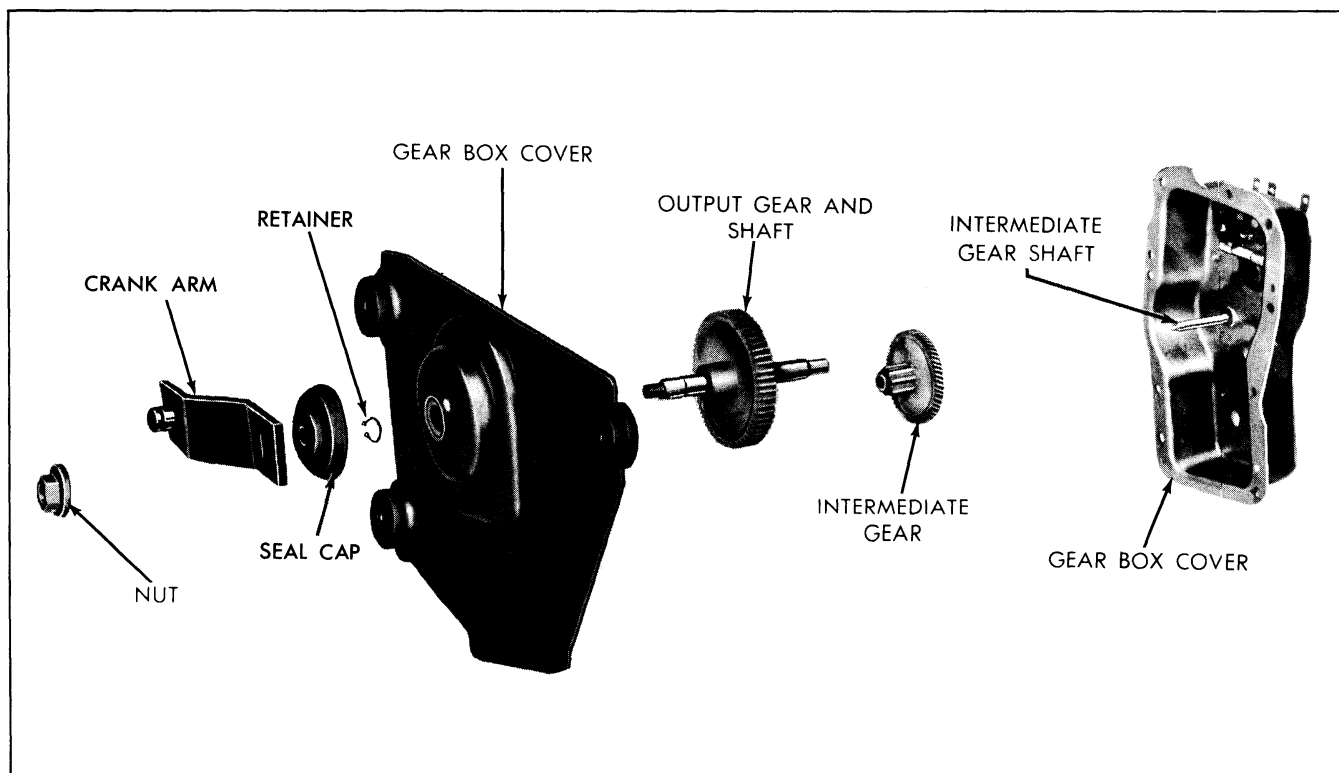

Fig. 11-83 Gear Box—Exploded View
1. Clamp crank arm in a vise and remove crank arm retaining nut and arm (Fig. 11-83).
4. Remove output gear and shaft assembly, then slide intermediate gear and pinion assembly off shaft. (Fig. 11-83).